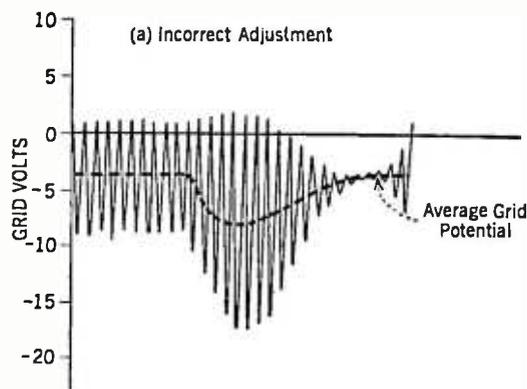

Fig. 5—The grid action of the power detector with a grid leak too large.
When the modulation frequency is high the average grid potential may not be able to follow the rapidly varying amplitude of the signal, as is the case in Fig. 5. Here the grid-leak resistance and grid-condenser capacity are too high, and as the signal amplitude decreases the charge on the grid condenser is not able to leak off fast enough through the grid leak to reduce the average grid potential as fast as the signal is changing amplitude, with the result shown in Fig. 5. A correct value of grid-leak resistance and grid-condenser capacity will give the conditions of Fig. 1 (F), in which the distortion is at a minimum.